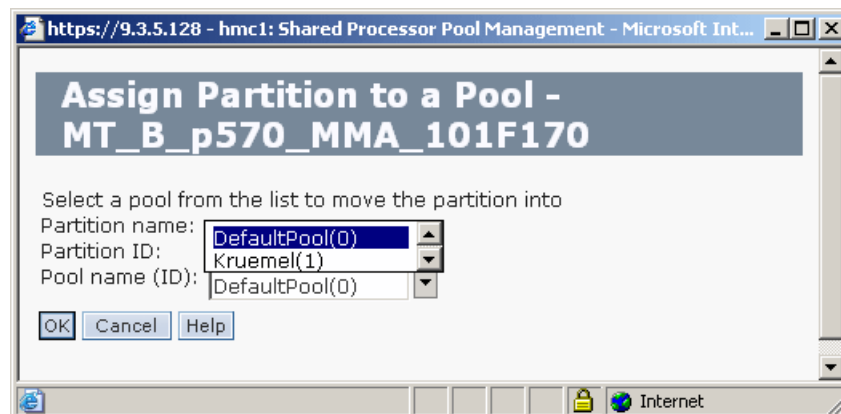

Figure 3-4 Assign a partition to a Shared Processor Pool
2. Select a shared storage pool as shown in Figure 3-4.